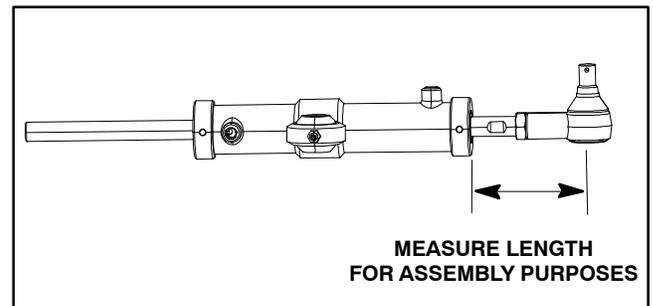

Figure 74
5. Remove two (2) jam nuts and flat washer from cylinder rod end at rear wheel castor fork.
8. If rod end (item 9) is to be removed from cylinder rod, fully retract cylinder rod and measure distance from center of rod end to end of cylinder for assembly purposes (Fig. 74). Record measured distance. Loosen jam nut and then remove rod end and jam nut from cylinder rod.
1. If rod end (item 9) was removed from cylinder rod, fully retract cylinder shaft and thread rod end onto shaft so that distance is as measured during removal process (Fig. 74). Tighten jam nut to retain rod end.
4. Secure cylinder rod end to the castor fork with two (2) jam nuts and flat washer. Install first jam nut and torque from **65 to 85 ft-lb (89 to 115 N-m)**. Then, while holding first jam nut with wrench, tighten second jam nut and torque from **65 to 85 ft-lb (89 to 115 N-m)**.